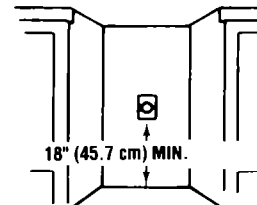

FIGURE 8
7. A grounded receptacle should be located 18" (45.7 cm) (min.) from the floor and in the center of the opening. See Figure 8.